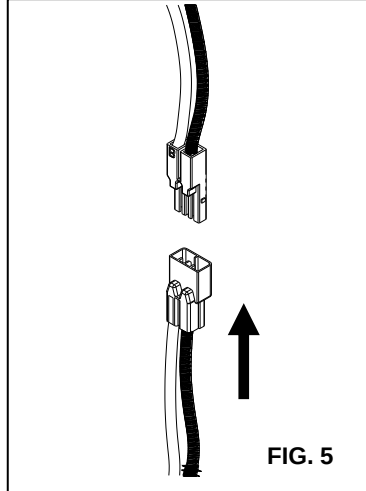

FIG. 5
3. Plug the FEMALE CONNECTOR of the RETROFIT TRIM onto the MALE CONNECTOR of the SOCKET ADAPTER ASSEMBLY. **(FIG. 5)**
1. Plug the FEMALE CONNECTOR of the RETROFIT TRIM onto the MALE CONNECTOR of the HALO HOUSING. **(FIG. 5)**
2. Pull the RETROFIT TRIM down from the RECESSED HOUSING. Unplug the FEMALE CONNECTOR of the RETROFIT TRIM from the MALE CONNECTOR of the SOCKET ADAPTER ASSEMBLY. **(FIG. 5)**